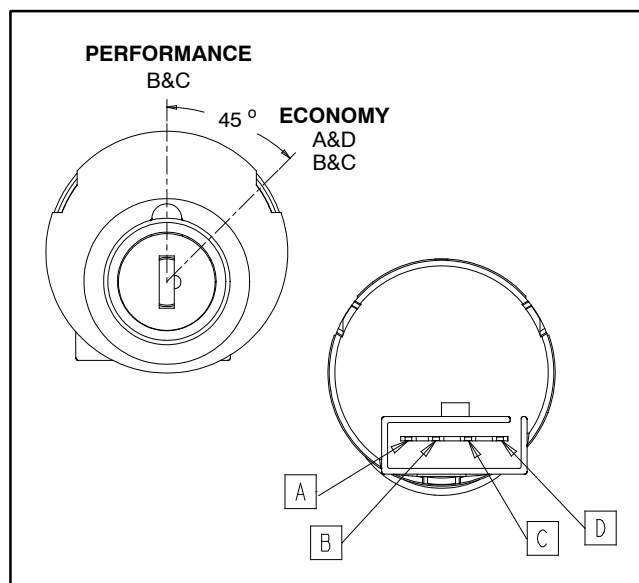

Figure 36
4. With the use of a multimeter (ohms setting), the speed limit switch functions may be tested to determine whether continuity exists between the A and D terminals for each switch position. The speed limit switch terminals are identified as shown in Figure 36.